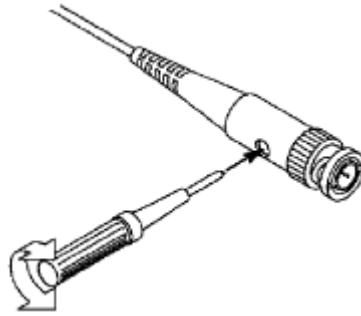

Figure 4-9 Adjust Probe
2. Check the displayed waveforms and regulate the probe till a correct compensation is achieved (see *Figure 4-8* and *Figure 4-9*).